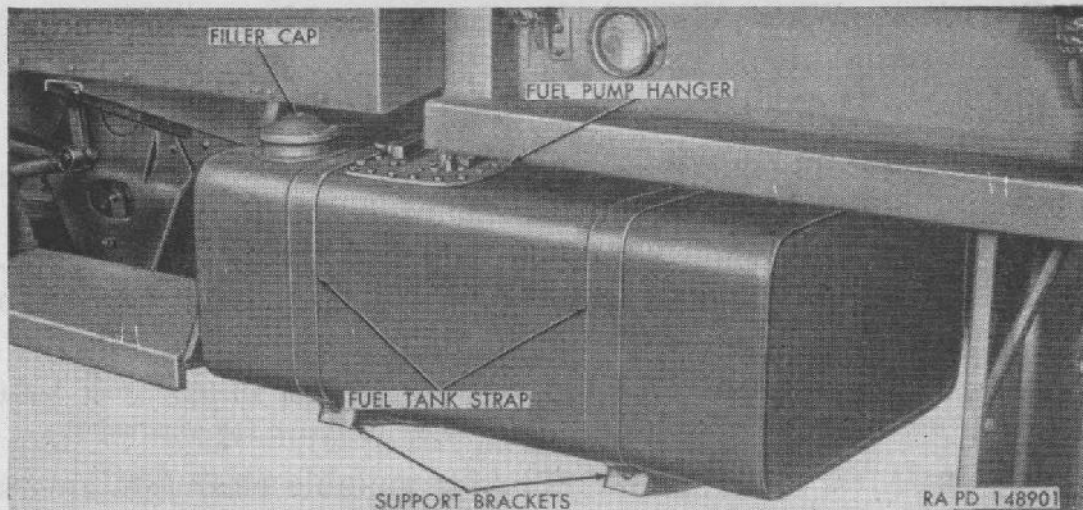

Figure 59. Fuel tank installed.
a. DESCRIPTION. Fuel tank (fig. 59) is supported by brackets bolted on frame at left side of vehicle, and is held in place by straps which pass over top and down outer side of tank and are